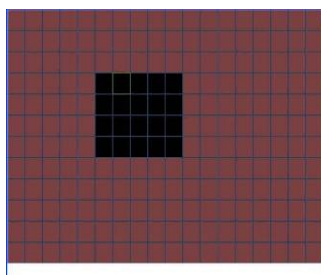

Figure 4-19
- Region: Click select button, the interface is shown as in Figure 4-19. Here you can set motion detection zone. There are 396(PAL)/330(NTSC) small zones. The green zone is current cursor position. Grey zone is the motion detection zone. Black zone is the disarmed zone. You can click Fn button to switch between the arm mode and disarm mode. In arm mode, you can click the direction buttons to move the green rectangle to set the motion detection zone. After you completed the setup, please click ENTER button to exit current setup. Do remember click save button to save current setup. If you click ESC button to exit the region setup interface system will not save your zone setup.
In Figure 4-19, you can left click mouse and then drag it to set a region for motion detection.